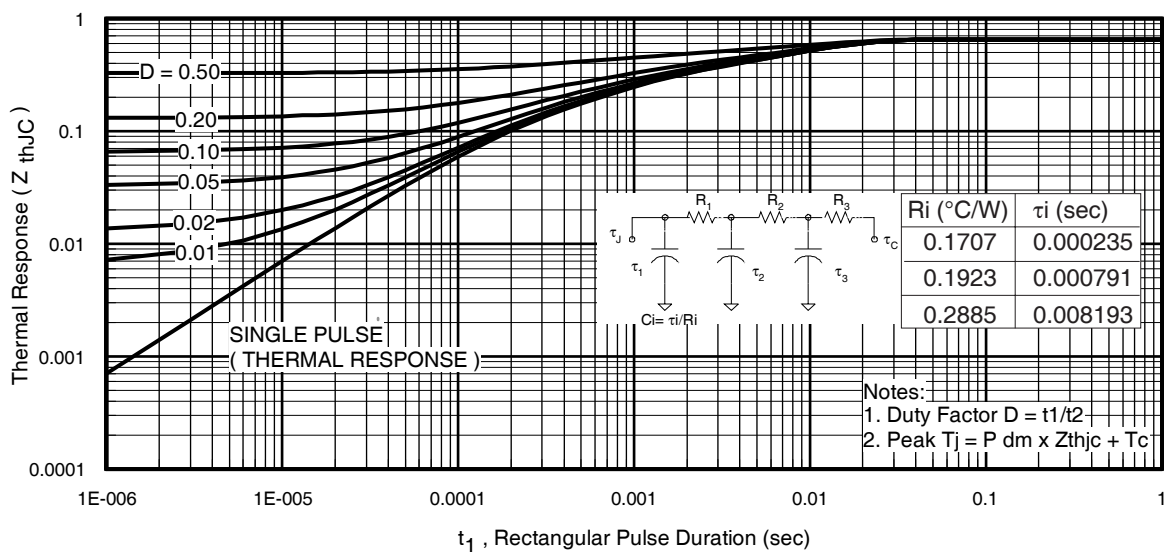

Fig 11. Maximum Effective Transient Thermal Impedance, Junction-to-Case
- ① Repetitive rating; pulse width limited by max. junction temperature. (See fig. 11).
- ② Limited by T_{Jmax} , starting $T_J = 25^\circ\text{C}$, $L = 0.064mH, R_G = 25\Omega, I_{AS} = 88A, V_{GS} = 10V$.
$Z_{thJC}(D, t_{av})$ = Transient thermal resistance, see figure 11)